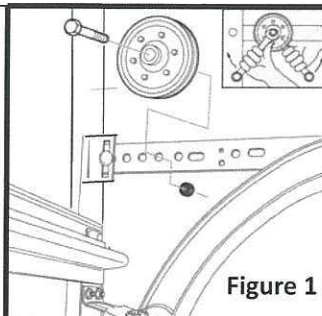

Figure 1
Step 1: Bolt the Stationary Pulley (right side) to the inside of the Horizontal Angle, through the 3rd open hole out from the jamb, using (1) 3/8"x1-1/2" machine bolt and 3/8"-16 RED nut (Fig 1). Be sure the Pulley turns freely.